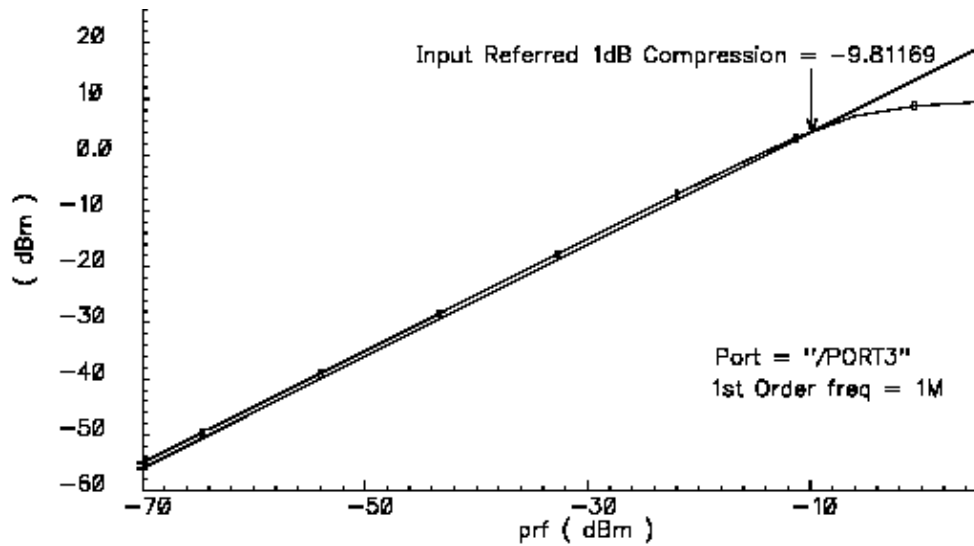

Fig 12: 1-dB Compression point and IIP3
- *The resulting plot is shown in Fig 12*